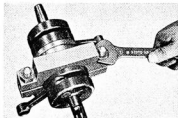

Fig. 4-16-6
- 2) Tighten the pieces of the tool together with bolts. (Fig. 4-16-6)